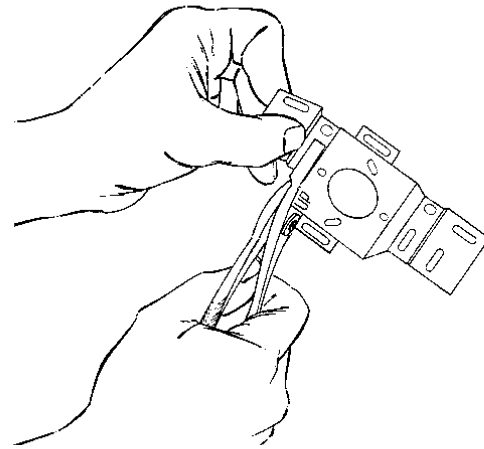
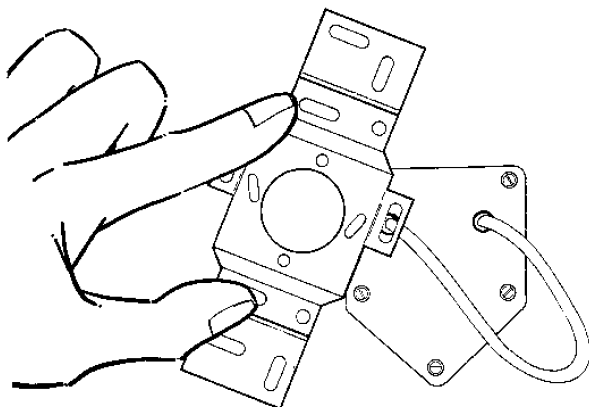

Figure-5
Figure-4
3. Determine if the wall plate skirt will be required by first checking to see if the wall plate alone will cover all the marks left by the old thermostat. Secondly, determine if the extra 3/16 inch of room that the wall plate skirt provides is needed. Do this by holding the mounting bracket over the pipe head connections made in Step 2. See Figure-4. If tygothane tubing will bend under the side mounting tabs on the bracket without kinking, then the extra room is not required. If the skirt is not needed, either for the added coverage or the extra depth, and it is not wanted for appearance; then break off the outer tabs on the bracket. See Figure-5.